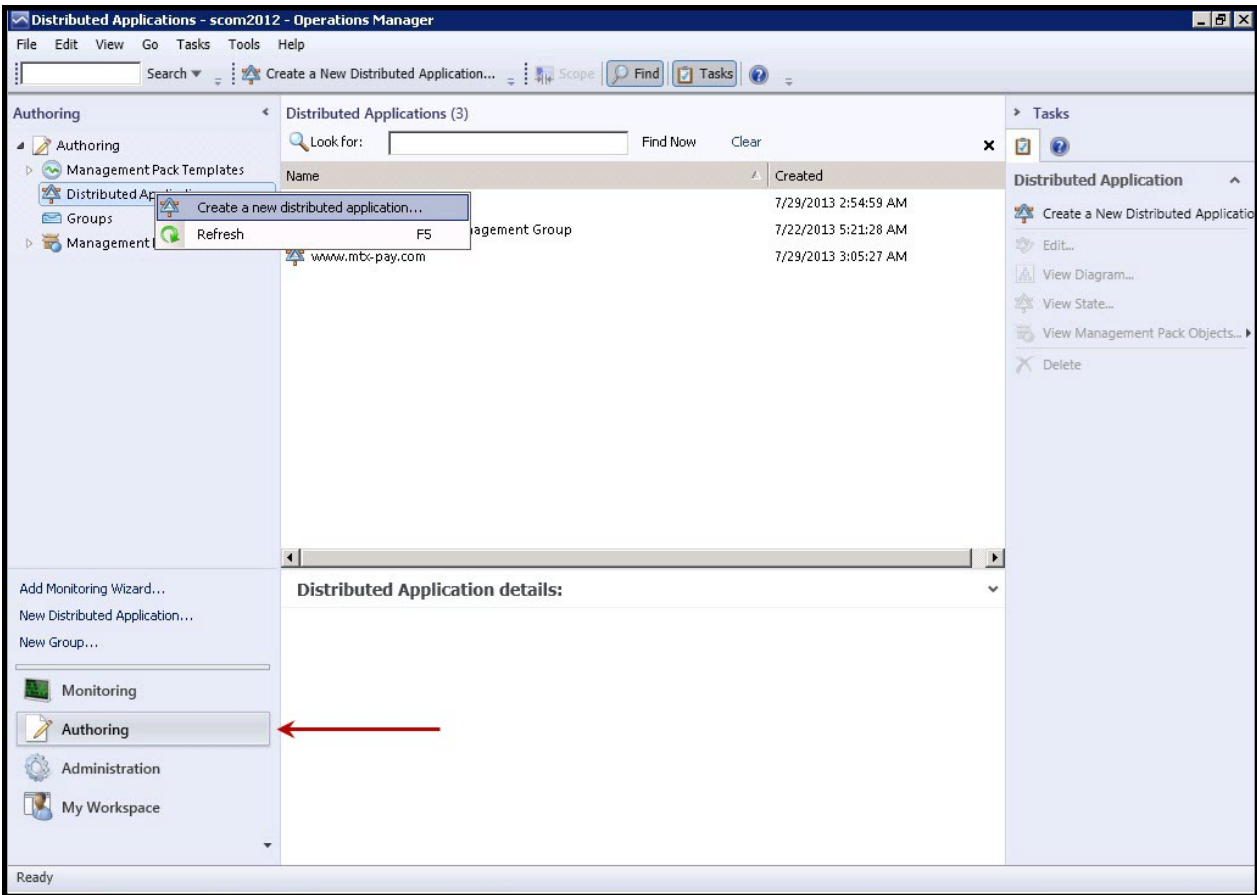

Figure 4.25: Starting Distributed Application Configuration
1. A business service in eG has to be defined as a 'Distributed Application' in SCOM. In other words, the *Infomart* service in our example, will have to be configured as the *Infomart* distributed application in SCOM. This implies that the topology that you built for the *Infomart* service in eG should be built again in SCOM for the *Infomart* distributed application. For this, first, login to the SCOM console. Then, click the **Authoring** tab page depicted by Figure 4.25 below.
2. When the **Authoring** tree appears in the left panel, expand the **Authoring** node in the tree-structure, right-click on the **Distributed Application** sub-node, and pick the **Create a new distributed application** option (see Figure 4.25).